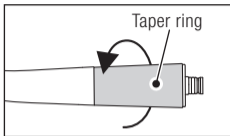

Fig. 36
- 1 Loosen and remove the taper ring at the rear of the handpiece (Fig. 36).